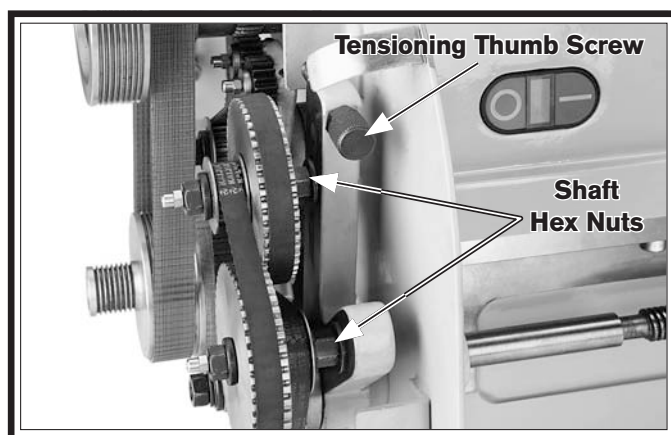

Figure 54. End pulley shaft hex nuts and tensioning thumb screw.
3. Loosen the pulley shaft hex nuts and tensioning thumb screw shown in **Figure 54**.